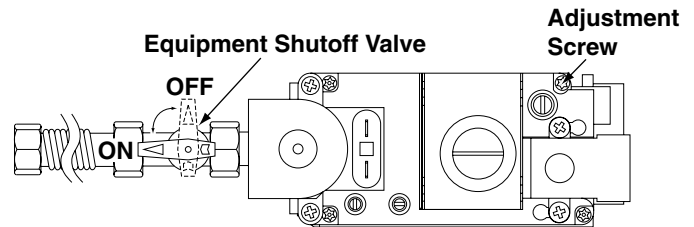

Figure 34 - Turning Equipment Shutoff Valve to the OFF Position
5. Turn equipment shutoff valve clockwise  to the OFF position (see Figure 34). Do not force.
6. Wait five (5) minutes to clear out any gas. Then smell for gas, including near the floor. If you smell gas, **STOP!** Follow "B" in the safety information above. If you don't smell gas go to the next step.